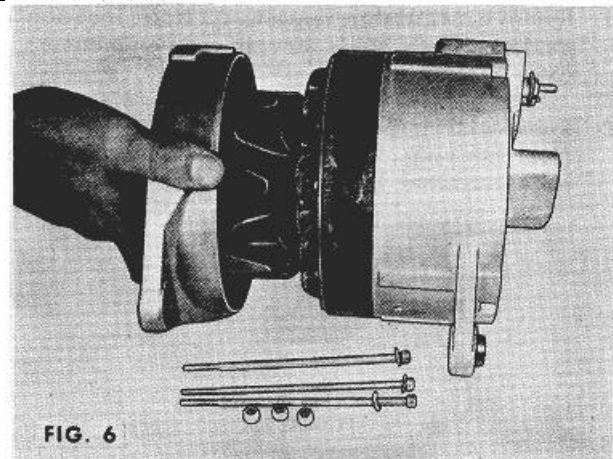

Fig. 6
7. Remove rotor and drive end housing assembly from stator and slip ring end housing assembly. If drive end housing binds on stator, loosen by tapping gently on mounting ear with fibre hammer. Be sure that drive end housing separates from stator and that stator remains attached to slip ring end housing to avoid damage to stator leads. (See Figure 6.)